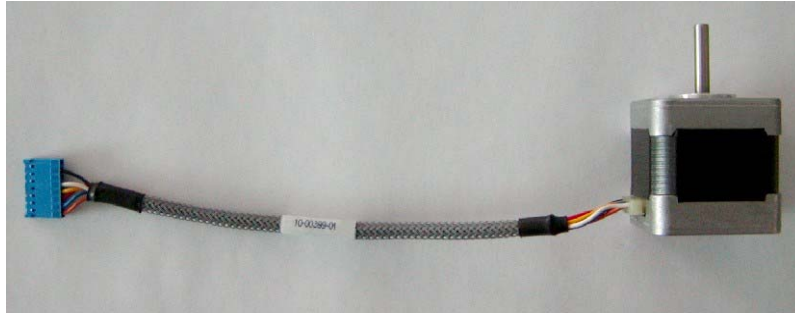

Fig. 23 – Arm Motor Assy [P/N: 10-00399-01]
16. Insert the pulley to the motor axis of the new Arm Motor Assy (Fig. 23).
10. Insert the pulley to the motor axis of the new Arm Motor Assy (Fig. 23).